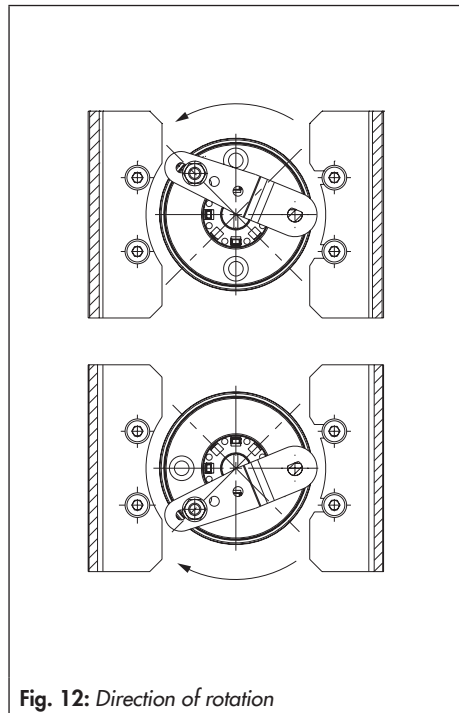
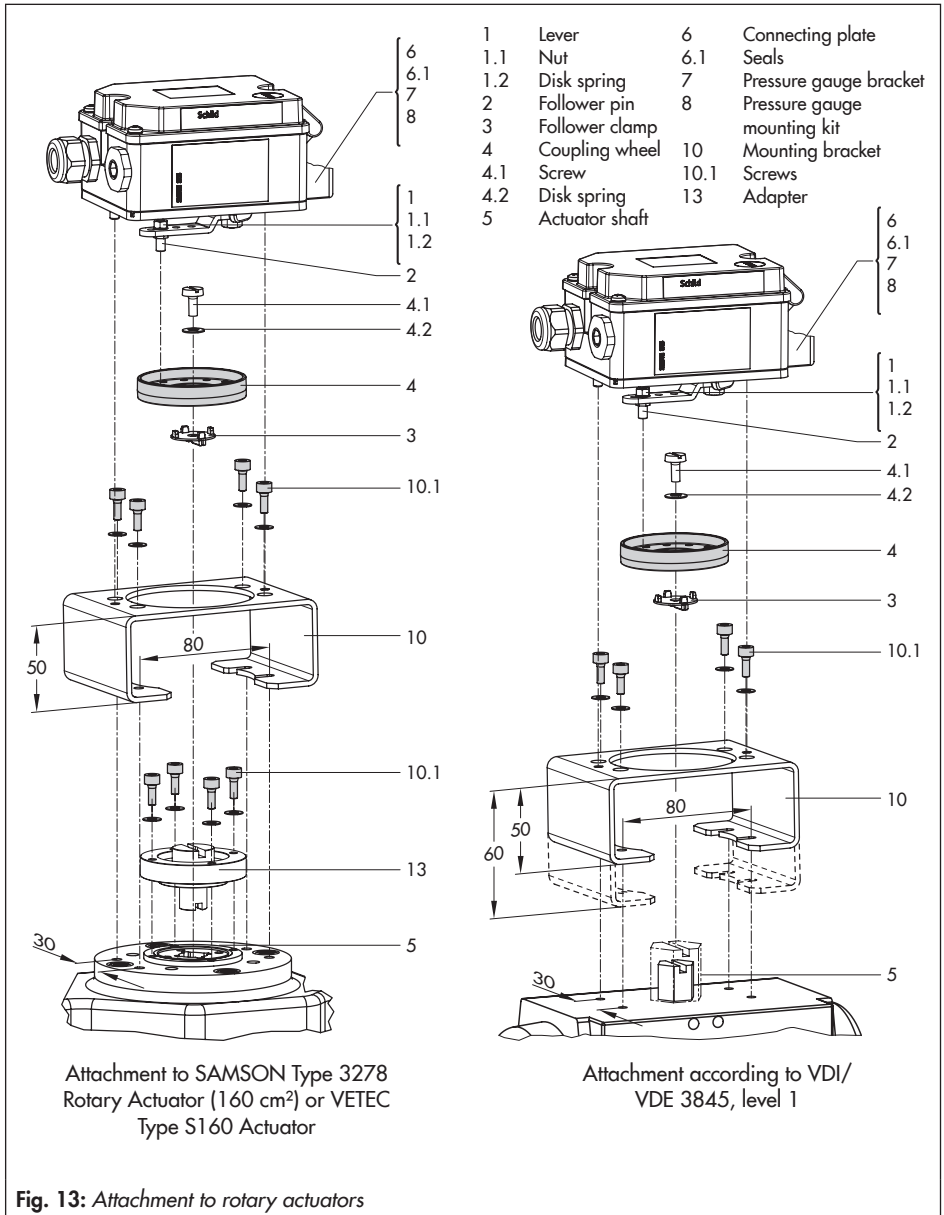

Fig. 12: Direction of rotation
Fig. 13: Attachment to rotary actuators
- ➔ Before attaching the positioner onto the SAMSON Type 3278 Rotary Actuator (160 cm²) or VETEC Type S160 Actuator, first mount the adapter (13) to the free end of the shaft end using four screws (10, 1).
1. Place follower clamp (3) on the slotted actuator shaft or adapter (13).
2. Place coupling wheel (4) with flat side facing the actuator on the follower clamp (3). Refer to Fig. 12 to align slot so that it matches the direction of rotation when the valve is in its closed position.
3. Fasten the coupling wheel (4) and follower clamp (3) tightly onto the actuator shaft using screw (4.1) and disk spring (4.2).
4. Mount connecting plate (6) or pressure gauge bracket (7) with pressure gauges (8) on the positioner, making sure the two seals are seated properly.
5. Fasten the mounting bracket (10) to the actuator using four screws (10.1).
6. Unscrew the standard follower pin (2) from the positioner's M lever (1). Use the metal follower pin (Ø 5 mm) included in the mounting kit and screw tight into the hole for pin position 90°.
7. Place positioner on the mounting bracket (10) and fasten tight. Taking the actuator's direction of rotation into account, adjust lever (1) so that it engages in the slot of the coupling wheel (4) with its lower pin (Fig. 13).
- ➔ The lever (1) must be parallel to the long side of the positioner when the actuator is at half its angle of rotation.
8. Stick the scale plate on the coupling wheel (4) so that the arrow tip indicates the closed position and it can be easily read when the valve is installed.